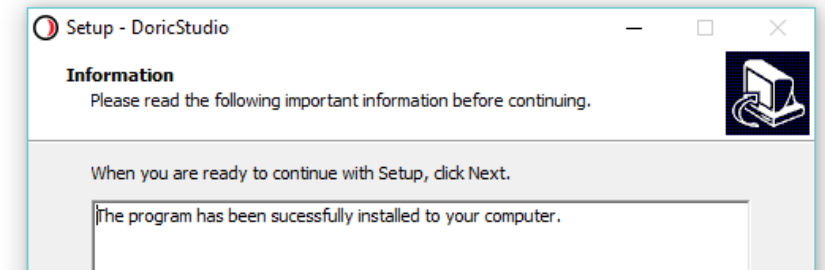

Figure 3.3: Successful Installation of the Doric Neuroscience Studio
8. When ready, click **Install** to begin the process. This should take a few moments. When the installation is done, the message in figure 3.3 will show up.